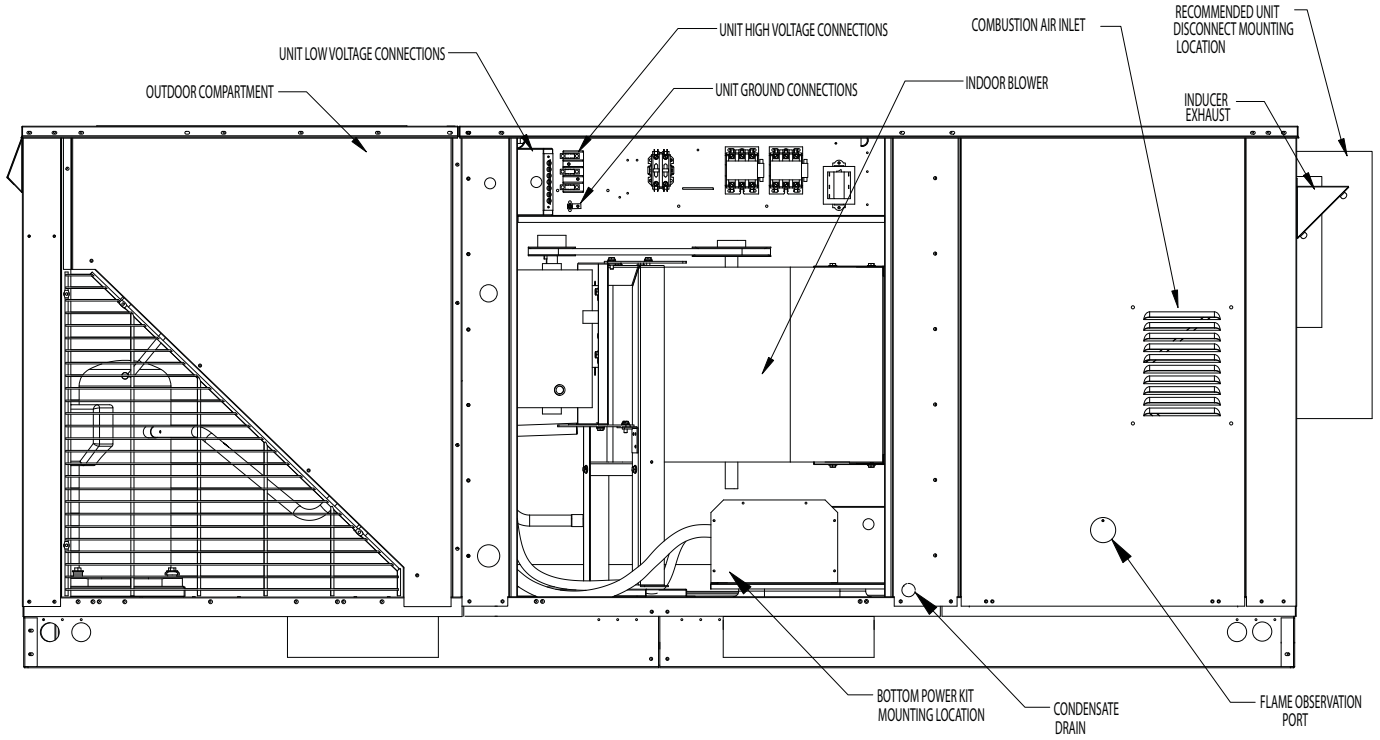

Figure 14. Unit Component Locations
16. Install unit disconnect and conduit to connect disconnect to the unit's heat exchanger end panel. Refer to the Unit's Installation Instructions, Physical Data Pages, for the recommended disconnect mounting location and connection points. (See Figures 14 & 18)